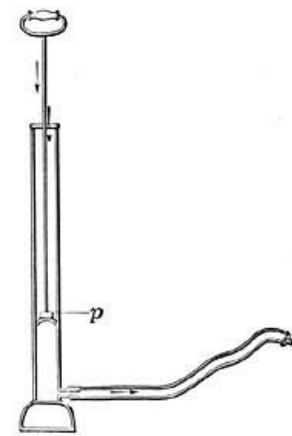

FIG. 144.—The bicycle foot pump. [204]
**190. The Bicycle Pump.** The bicycle pump is the best known of all compression pumps. Here, as in other pumps of its type, the valves open inward rather than outward. When the piston is lowered, compressed air is driven through the rubber tubing, pushes open an inward-opening valve in the tire, and thus enters the tire. When the piston is raised, the lower valve closes, the upper valve is opened by atmospheric pressure, and air from outside enters the cylinder; the next stroke of the piston drives a fresh supply of air into the tire, which thus in time becomes inflated. In most cheap bicycle pumps, the piston valve is replaced by a soft piece of leather so attached to the piston that it allows air to slip around it and into the cylinder, but prevents its escape from the cylinder (Fig. 144). [204]